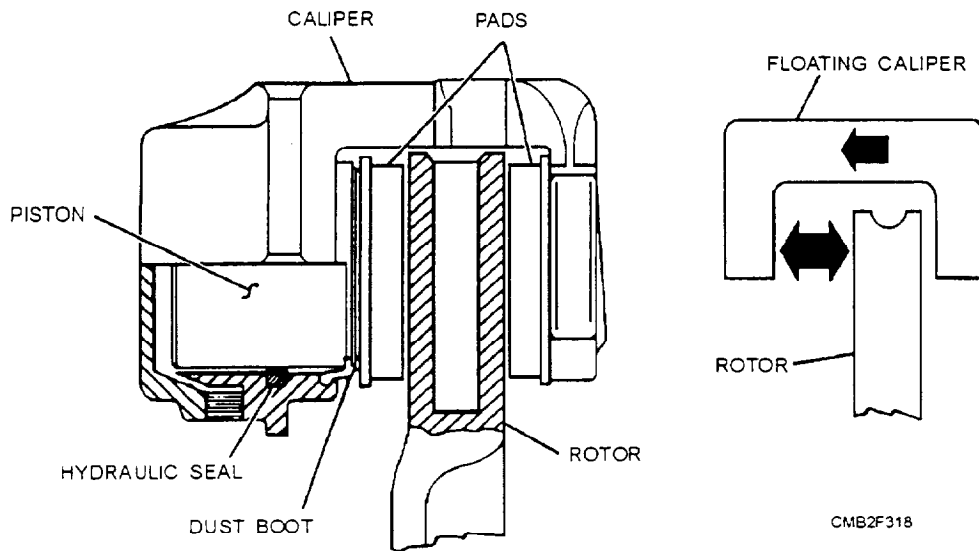

Figure 7-17.—Floating caliper.
**FLOATING CALIPER.**—The floating caliper type disc brake (fig. 7-17) is designed to move laterally on its mount. This movement allows the caliper to maintain a centered position with respect to the rotor. This design also permits the braking force to be applied equally to both sides of the rotor. The floating caliper usually is a one-piece solid construction and uses a single piston to develop the braking force.